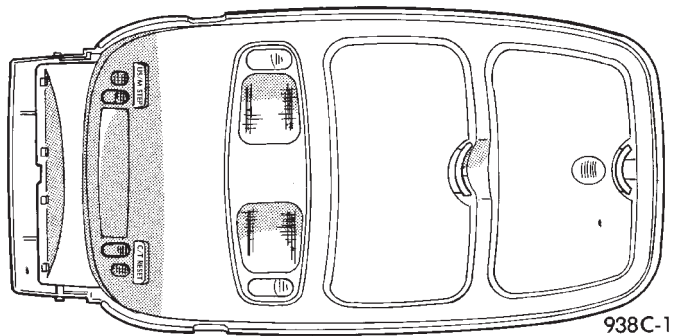

Fig. 1 Full Console
- (1) Full console has (Fig. 1):